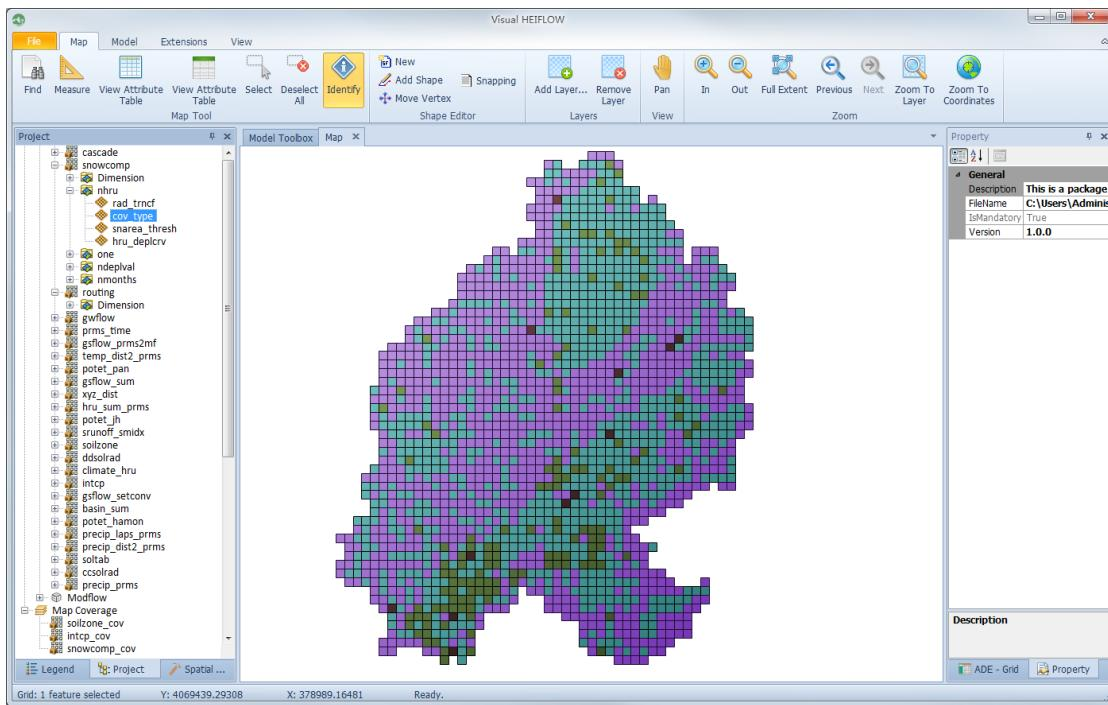

Figure 5-14. Spatial distribution of the cov_type parameter
- 17) Navigate to cov_type parameter, show its map view (Figure 5-14):